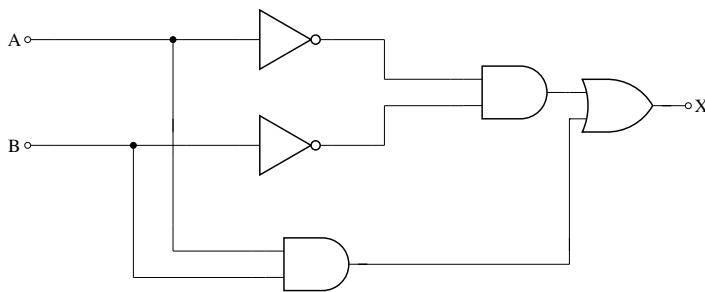

Fig. 3.30: Logic Gate Structure
47. A and B are logical inputs and X is the logical output shown in Fig. 3.30. The output X is related to A and B by